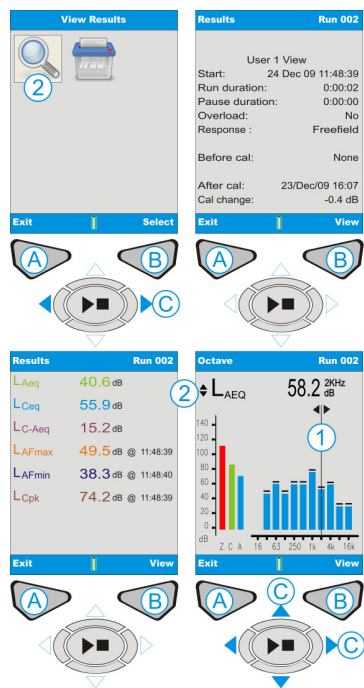

Figure 10 Memory Screens.
From MENU screen, use cursor keys (C) to select **MEMORY RESULTS** (1) and press (B) to continue. Use cursor keys (C) to select a Memory Result. Press (B) to select measurement. Use cursor keys (C) to select **VIEW RESULTS** (2) (See Figure 10 over page). Press **Select** (B) to continue. The selected Memory Results are displayed. For additional data press **View** (B).
This screen displays detailed specific data for the saved Memory Results (Figure 10). This is read only data. To view this data in a graphical format, press **View** (B). The Octave values saved in the Memory Results are displayed in a graphical format. Use cursor keys (C) to move the vertical line across the graph. Each graph bar represents an octave level measured in Hz or kHz. Press **View** (B) again to view tabular octave results.